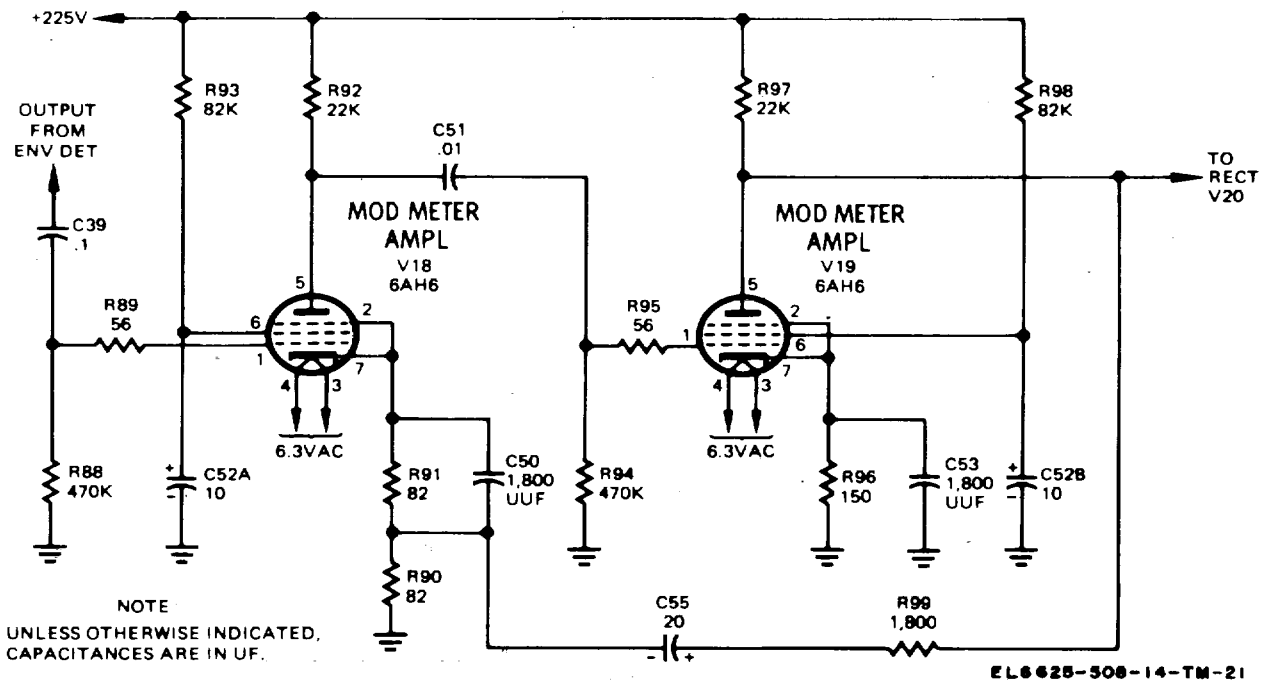

Figure 5-12. Modulation meter amplifiers, schematic diagram.
a. Vacuum tubes V18 and V19 (fig. 5-12) constitute the modulation meter amplifiers.